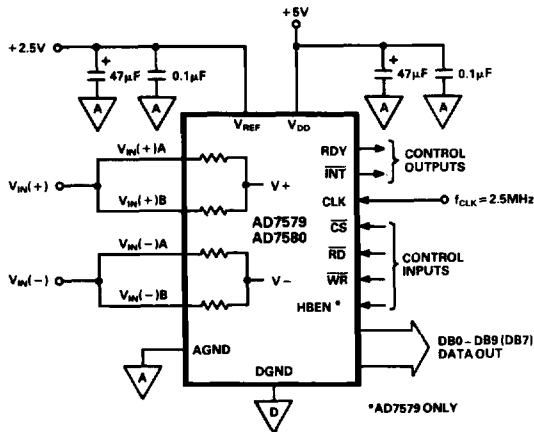
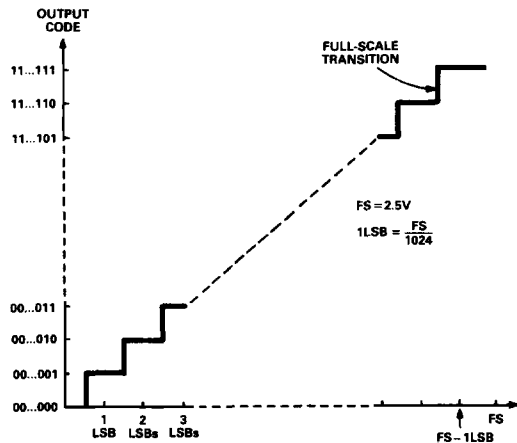

Figure 10. Unipolar 2.5 V Operational Diagram
Figure 11. Ideal Input/Output Transfer Characteristics
*DECOUPLING CIRCUITRY AND CONTROL CIRCUITRY AS IN FIGURE 10
Figure 10 shows the AD7579/AD7580 connected in the standard unipolar mode. Figure 11 and Table 2 show the ideal input/output transfer characteristics and the input/output code table, respectively. Code transitions occur between successive integer LSB values (i.e., 1/2 LSB, 3/2 LSBs, etc.). The output code is straight binary with 1 LSB = $FS/1024 = 2.5/1024 \text{ V} = 2.4 \text{ mV}$. The input voltage span is 2.5 V and the common mode range is 0 V to +5 V, when $V_{DD} = 5 \text{ V}$. This means that the lowest voltage which can be tolerated at any of the analog inputs is 0 V, and the highest voltage which can be tolerated is +5 V.
Table 2. Input/Output Code Table for Figure 10